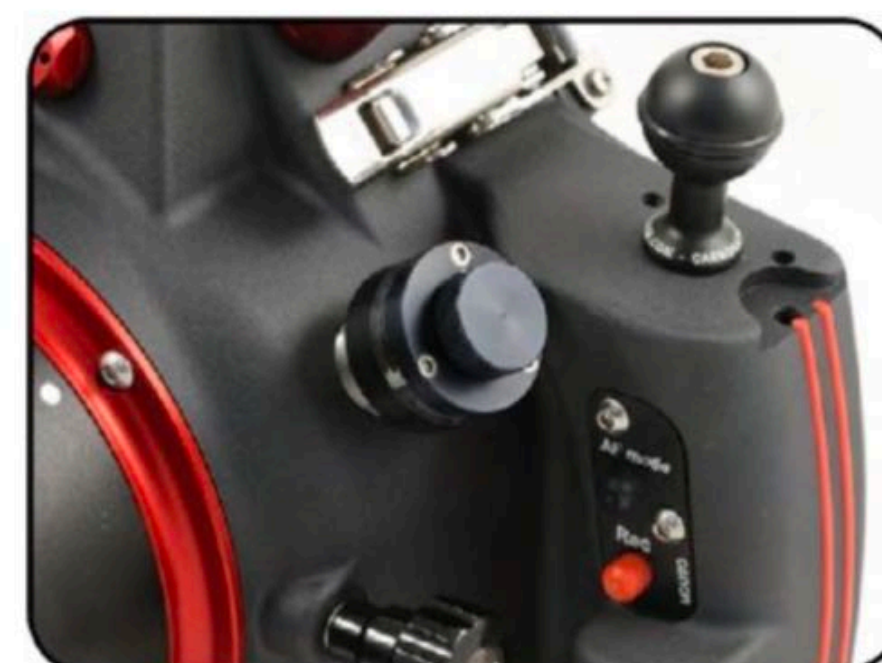

Fig. 1
10. Replace and tighten the protective cap. (Fig. 1)